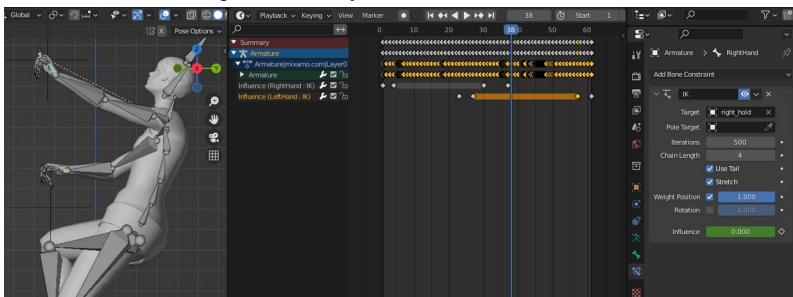

Figure 12-6 Keyframes to Control IK Influence
3. You will add an IK constraint for each hand to make them stick to each of the holds, and you will animate the strength of the constraint from 0.0, a few frames before the hand lands on the hold, to 1.0 at the start of holding on, then 1.0 at the end of holding on, to 0.0 at the end of letting go. Because the animation loops very nicely, the constraint for both hands should be 0.0 for the first frame and the last frame, otherwise there will be a discontinuity in the hand positions. Move back to the first frame, select the armature, switch to Pose mode and select the right hand bone. In the Bone Constraints Properties tab select **Inverse Kinematics** then set the Target to **right_hand** and Chain Length to **4**. The right hand is actually on the hold in the first frame but set the Influence to **0.0** and add a keyframe, move forward three frames, set the Influence to **1.0** and add the next keyframe. The frame to start letting go is when the left hand starts to curl over its hold. Move forward to that frame and insert another keyframe with Influence still at **1.0** then allow the motion to blend smoothly into the animation by setting the Influence to **0.0** ten frames later. Figure 12-6 shows the sequence of keyframes.